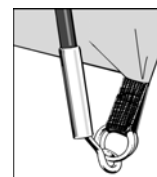

Figure 1.
1. Locate one end of each pole onto the corresponding metal pin. The metal pin inserts into the hollow metal ferrule on the end of each pole. (See **Figure 1**). Push the pole into a curve from the the opposite side, one at a time, and locate all pole ends onto the metal pins.